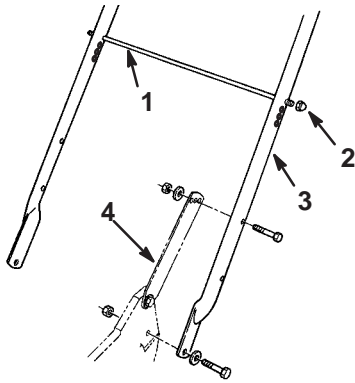

Figure 1
1. Mount handle to outside of mower housing, using bottom hole, with two 5/16-18 x 1-1/4" lg. capscrews, washers, and thin nylon insert locknuts (Fig. 1).
2. Secure handle latches to handle with two 5/16-18 x 1-1/2" lg. capscrews, washers and nylon insert locknuts (Fig. 1).
3. Slide bag support rod thru **top** mounting holes in handle and secure each end with a cap locknut (Fig. 1).